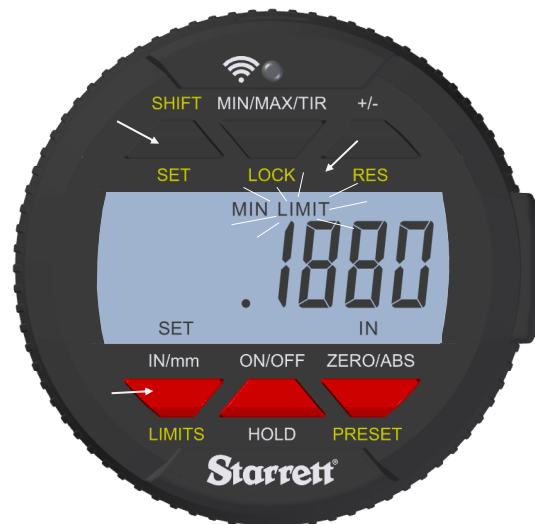

Fig.6B
3. Press the **LIMITS** button. The MIN LIMIT (MIN LIM Fig.6C) icon will appear in the upper middle of the display Fig.6B/C.